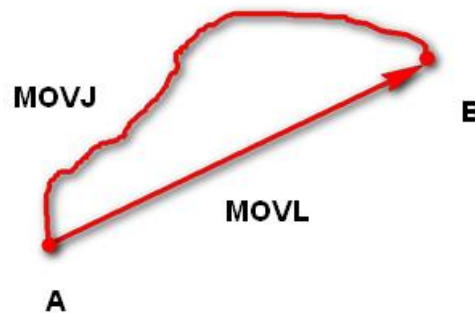

Figure 3.6 MOVJ/JOINT mode
- **MOVJ**: Joint movement. From point A to point B, each joint will run from initial angle to its target angle, regardless of the trajectory, as shown in Figure 3.6.
- **MOVL**: Rectilinear movement. The joints will perform a straight line trajectory from point A to point B, as shown in Figure 3.6.